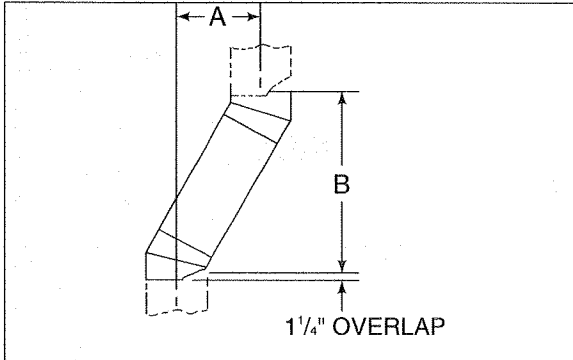

Figure 6
1. Measure how far the chimney needs to be shifted to enable it to avoid the overhead obstacle. See Figure 6 (page 12), dimension "A".
Example: Your "A" dimension from Figure 6 is 14½". Using Table 1, the dimension closest to but not less than 14½" is 14¾" using a 30° offset/return. It is then determined from the table that you would need 3¾" (Dimension "B") between the offset and return. The chimney components that best fit your application are two SL412's.